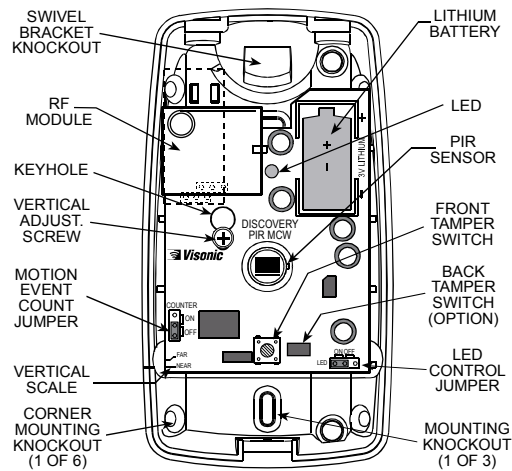
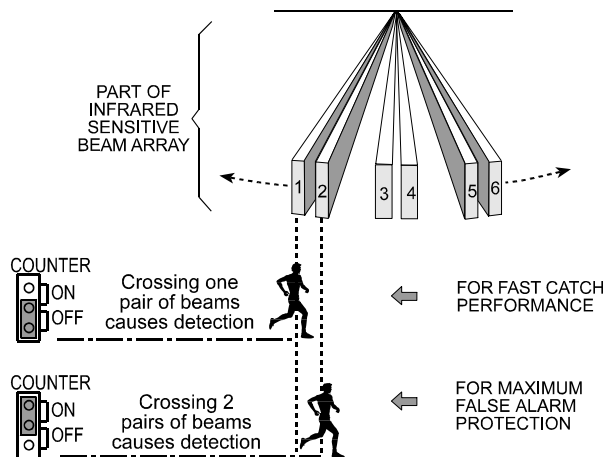

Figure 4. Inside View
Figure 9. Motion Event Counter Setting Options
- B. Insert the battery into the battery clip - observe polarity (see Figure 4).
- B. Loosen the vertical adjustment screw, slide the PCB down and remove it via the "keyhole" (see Figure 4).
The location of the motion event jumper is shown in Figure 4. Refer to Figure 9 below and mount the jumper as desired.